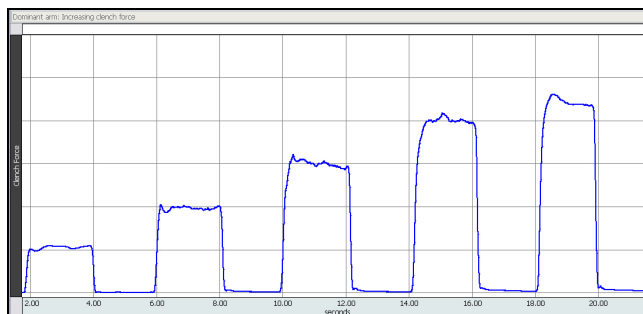

Fig. 2.11 Example Increasing Clench Force data
- The data shown above (Fig. 2.11) is from a **Subject** who was able to maintain an even force throughout the clench. Your data may be correct even if your peaks are not flat.